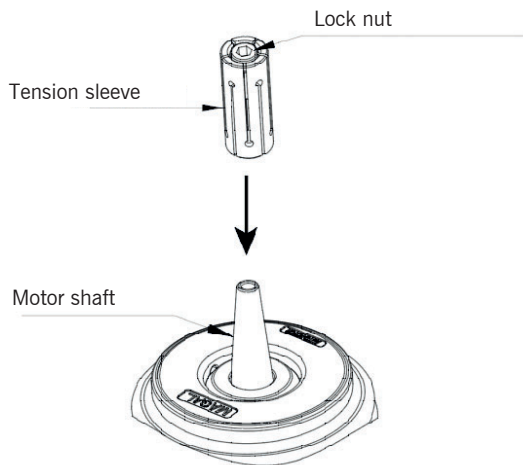
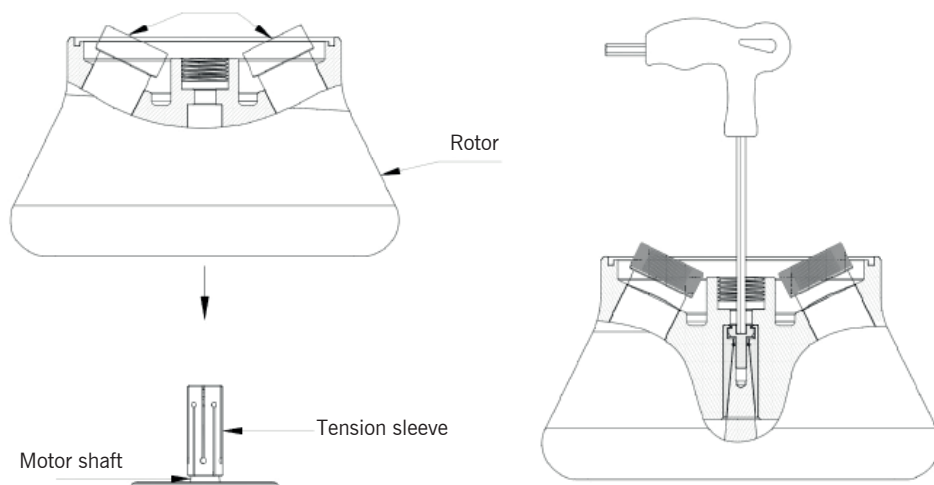

Figure 5: Schematic Diagram of Installation Angle Rotor
Figure 6: Schematic Diagram of Installation Angle Rotor
The steps for installing the rotor are as follows (as shown in Fig. 5 and Fig. 6):
■ Install the tension sleeve on the motor shaft as shown in Fig. 5, and turn it clockwise for 5 turns with the Allen wrench (Note: it must only be turned for 5 turns, otherwise the rotor will not be installed on the tension sleeve).
■ Prepare the rotor you want to use at the position shown in Figure 6. Hold the rotor with both hands, align the central hole of the rotor with the motor spindle, put it down vertically, place it at the bottom of the shaft, release both hands, and then press the rotor down with your hands.